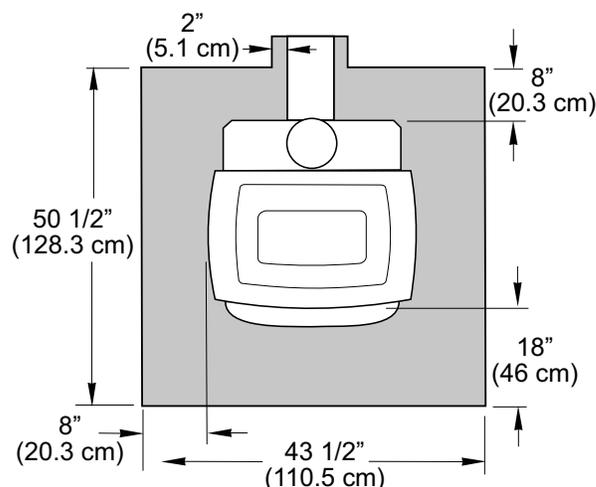

Figure 10. Floor Protection minimum dimensions, Canada.
**In Canada,** floor protection must extend continuously 18" from the front of the stove and 8 in. (460mm) from the sides and rear. It must also extend 2 in. (51 mm) under the chimney connector. This results in a floor protector 43 1/2 in. x 50 1/2 in. (110.5 cm. x 128.2 cm.) See fig.10.